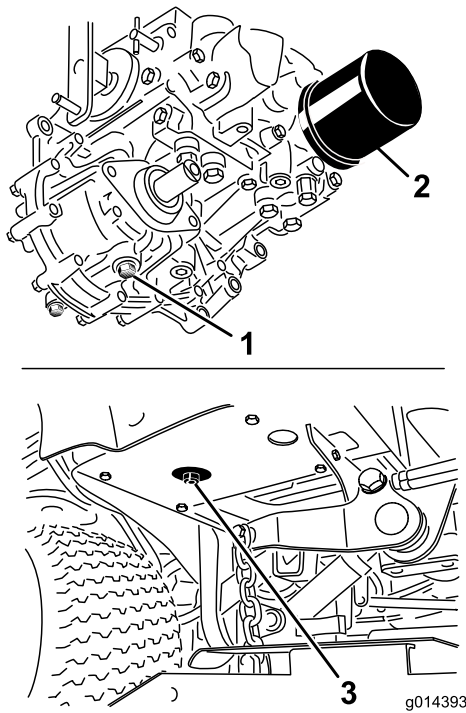

Figure 41
3. Place a large pan under the hydraulic reservoir and transmission case and remove the plugs, draining all of the hydraulic fluid (Figure 41).
4. Clean the area around the hydraulic oil filter and remove it (Figure 41).